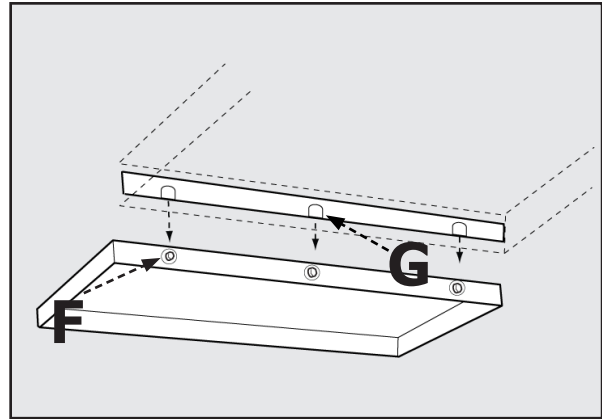
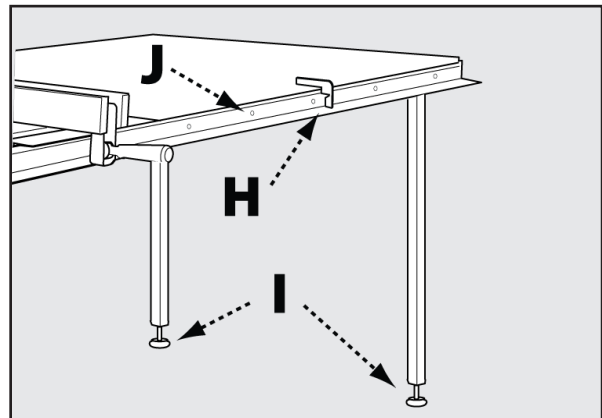

FIGURE 11
FIGURE 12
- Carefully drill through the holes in the vertical angle plate holes and the wood wall of the table with a 1/4 inch drill. Feed the #10-32 X 1 1/4" screws with #10 flat washers (E) through the drilled holes from the outside, then assemble the nuts onto the screws and tighten.
- Loosely assemble three 5/16-18 x 7/8" screws with spring washers, flat washers and nuts (F) into the three holes into the side of the extension wing as shown. (Fig. 11)
- Carefully lower the slotted steel angle table bracket (G) down onto the screws on the extension wing. Tighten the screws after the wood table is leveled with the extension wing.
- Using the rail alignment gauge (H) adjust the feet in the legs (I) so the top of the table is at the proper distance from the rail.
- Drill 1/4 inch holes through the rail holes (J) into the wood table on the front and back rails. (Fig. 12)